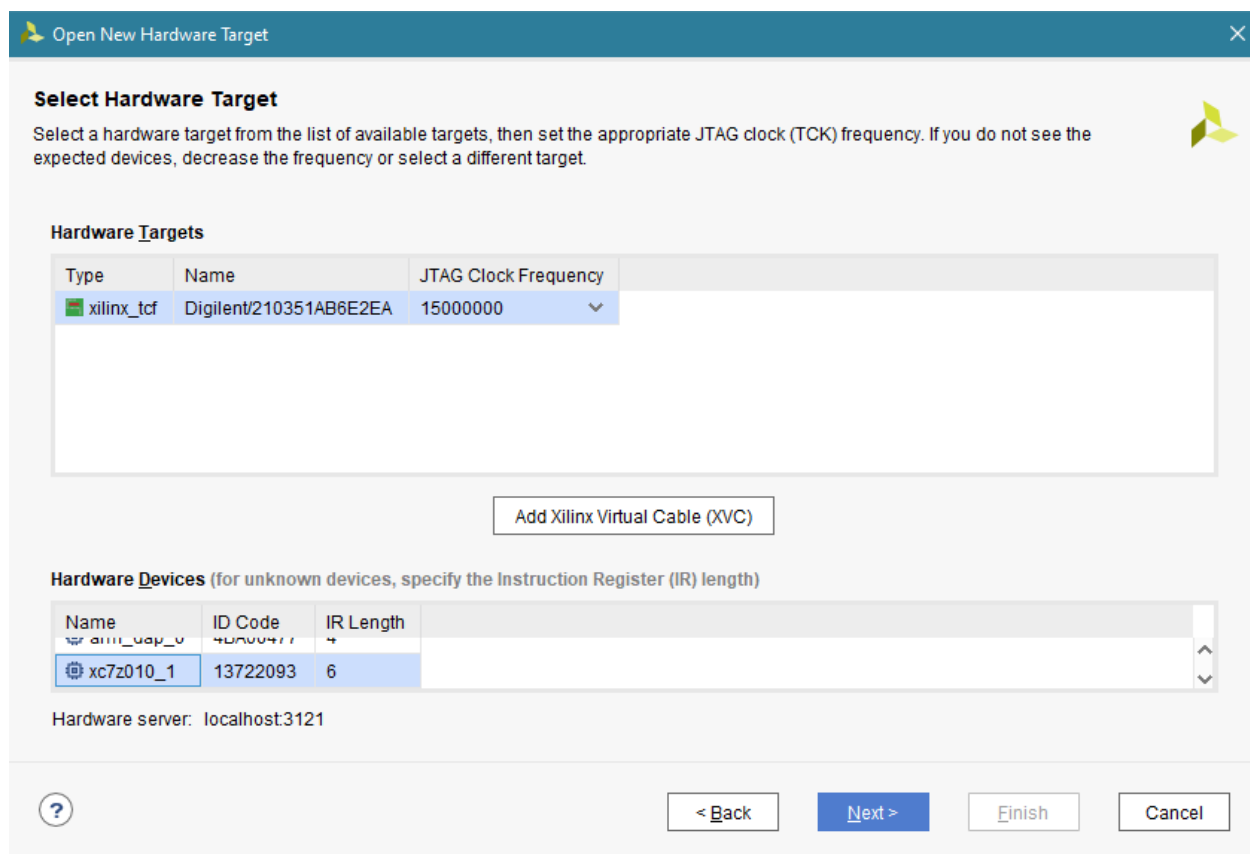

Figure 6: Open a Hardware Target
- (b) Before we program the Zybo Z7-10 board, we need to open a target. Connect your Zybo Z7-10 board to your computer's USB port and turn it on. Under the Flow Navigator, click "Open Target" and then "Open new target...". Click "Next" until you see a window that looks like Figure 6. Click "xc7z010_1" and click "Next" and then "Finish" to open our Zybo Z7-10 board as the hardware target.